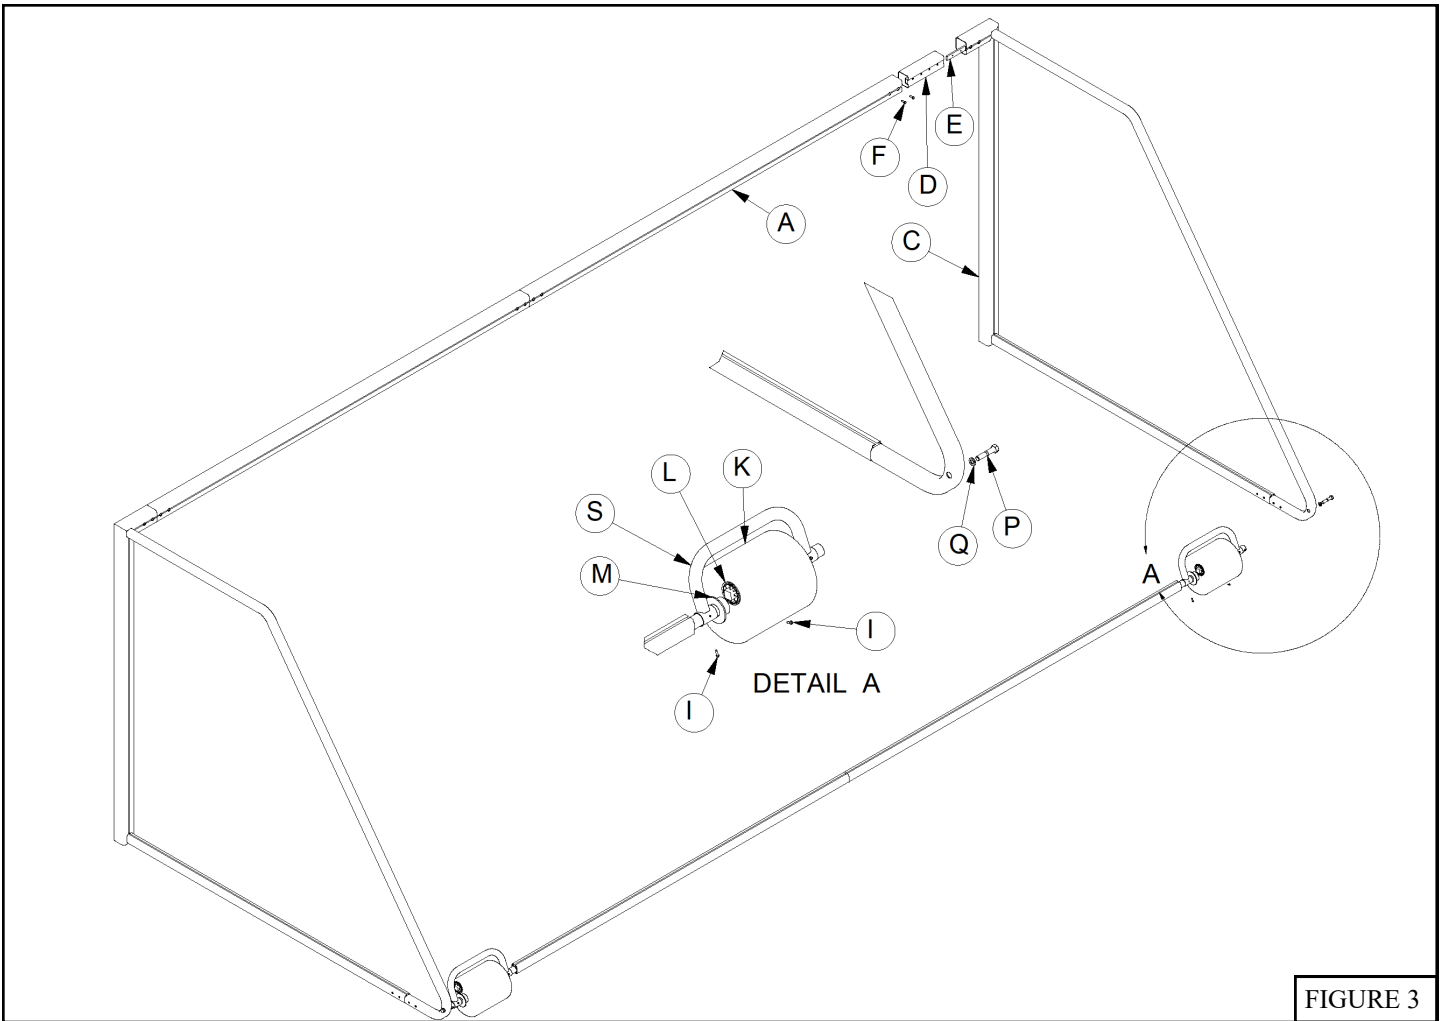

FIGURE 3
6. Lay two *Backstay Spreader Tube Sections* (G) end to end with the *Net Attachment Clip* (N) track lined up. See Figure 3.
7. Insert *Spreader Bar Connecting Tubes* (H) approximately 18" into the open ends of two *Backstay Spreader Tube Sections* (G), with the ends of the *Backstay Spreader Tube Sections* (G) touching. See Figure 3.
8. Using eight #14 X 3/4" *Self Drilling Hex Screws* (I) and 3/8" *Hex Magnetic Screw Drive Socket* (J) with a power screw driver, connect each pair of *Backstay Spreader Tube Sections* (G). Screws should be installed in two rows 90° apart, spaced approximately as shown. See Figure 3.